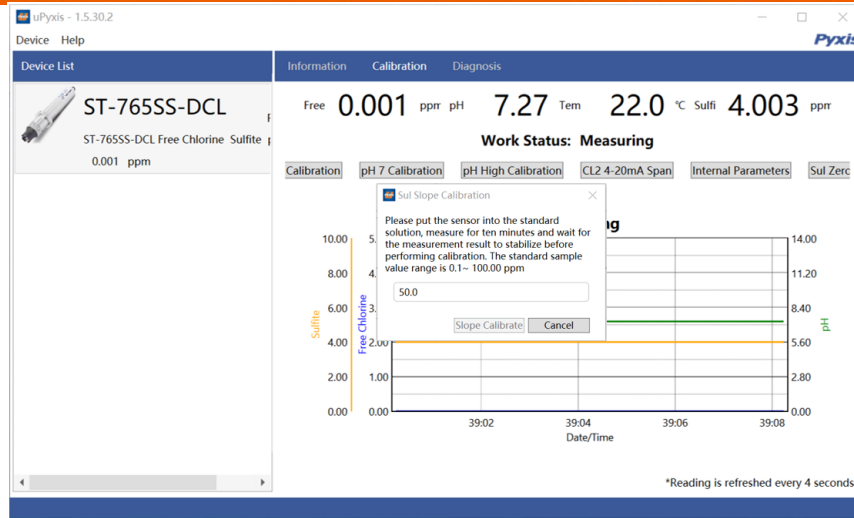

Figure 20 - Slope Calibration
***Slope-point Calibration:*** Insert the ST-765SS Series sensor back into the ST-007 tee or the FR-300-PLUS flow reservoir and reestablish sample flow. The ST-765SS-DCL sensor must be slope calibrated for Sulfite based on test method results of the actual system sample while installed in the ST-007 tee or the FR-300-PLUS flow reservoir used with the sensor and exposed to consistent system sample flow for the installation method being used as outlined in the specifications section 1.0 of this manual. Determine the Sulfite concentration using titration method, colorimeter or fluorometer (i.e.. Pyxis SP-800 / SP-910 or Hach DR1300). Once you have tested and confirmed the Sulfite concentration value in the active (flowing) flow tee assembly, Tap **SUL SLOPE CALIBRATION** and enter the test result value of the portable or laboratory colorimeter in Calibration Screen as shown in Figure 20.